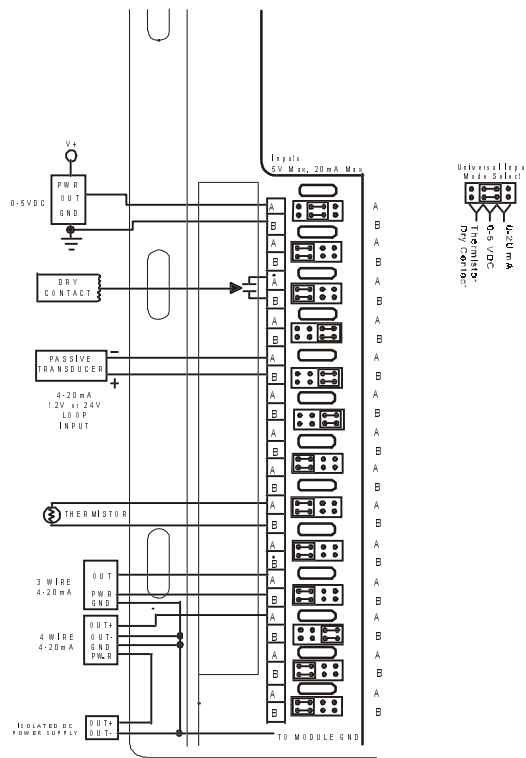

Figure 8. Input Wiring
2. Connect the input wiring to the screw terminals on the module as shown in Figure 8.